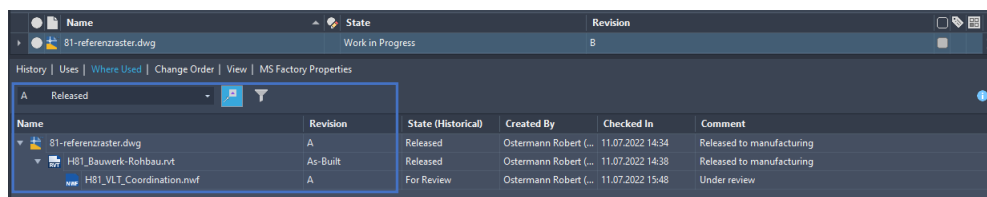

FIGURE 5: UNDERSTAND WHICH REVISION (MILESTONE) OF A FILE (DWG IN THIS CASE) IS BEING USED IN A REVIT MODEL
- Understand which revision (milestone) of a file is being used in a Revit model (see Figure 5). Which is a more logical, better traceable and easier way compared to a shared and consumed workflows in ACC (see Figure 6)